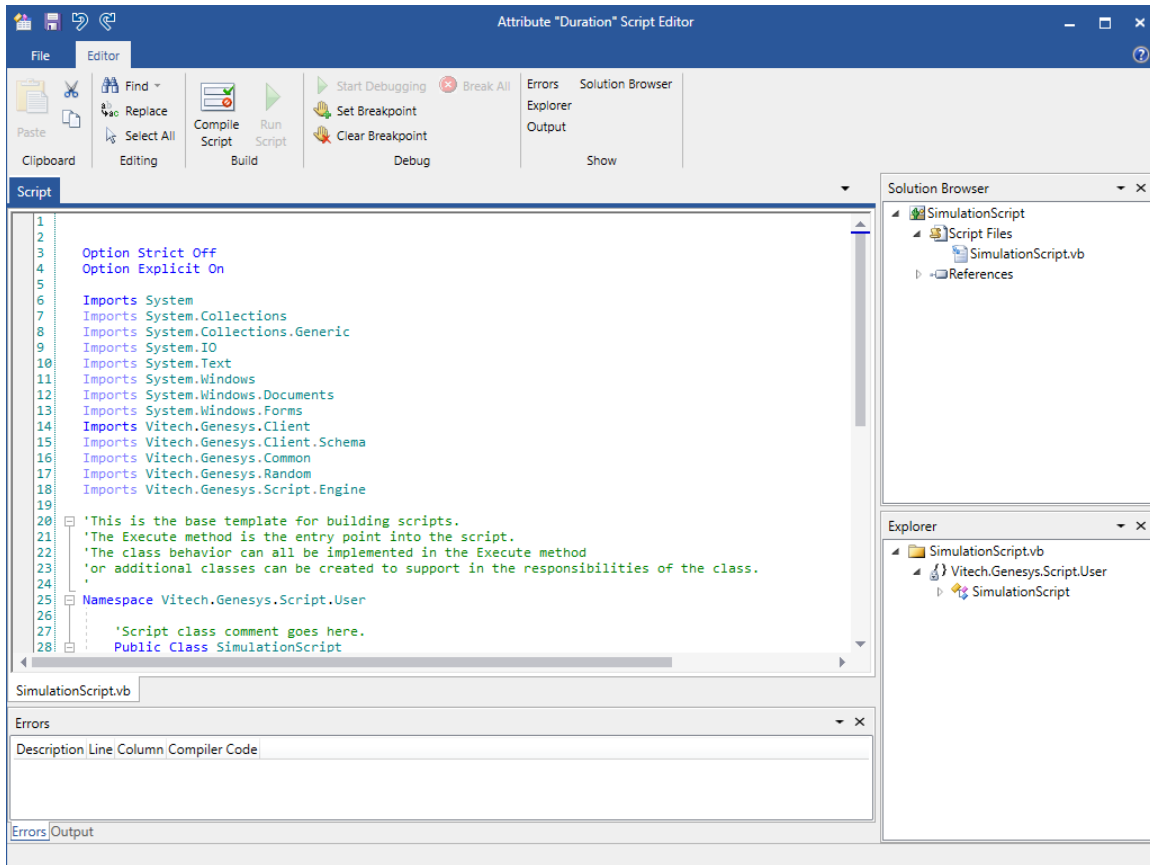

Figure 19 Script Editor Window
- Select the **Script** option to create a Microsoft Visual Basic script to determine the attribute value. The Script Editor Window as shown in Figure 19. GENESYS will execute the script at the start of each execution of the **Function** once the necessary **Resources** have been acquired and triggers processed. More information on scripting is provided in Section 6.
The script is entered/modified by clicking the **Edit** button next to the attribute in the **Properties** window. The **Edit** button opens a Script Editor window (Figure 19) where the script is built using Microsoft Visual Basic and the GENESYS API.